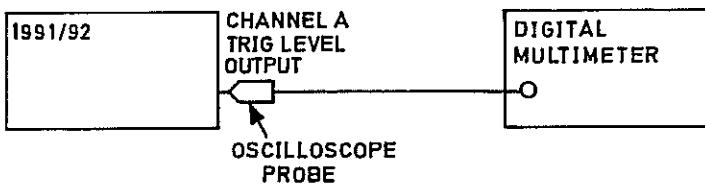

Fig 7.25 Connections for Trigger Level PVP
- 62 (1) Connect the test equipment as shown in Fig 7.25.
- (2) Set the multimeter to measure DC volts.
- (3) Press **TRIG LEVEL**    **5**    **TRIG LEVEL**    on channels A and B.
- (4) Verify that the multimeter indicates  $+5\text{ V} \pm 60\text{ mV}$ .
- (5) Transfer the probe to the channel B TRIG LEVEL OUTPUT pin and verify that the multimeter indicates  $+5\text{ V} \pm 60\text{ mV}$ .
- (6) Press **TRIG LEVEL**    **0**    **TRIG LEVEL**    on channels A and B.
- (7) Verify that the multimeter indicates  $0\text{ V} \pm 10\text{ mV}$ .
- (8) Transfer the probe to the channel A TRIG LEVEL OUTPUT pin and verify that the multimeter indicates  $0\text{ V} \pm 10\text{ mV}$ .
- (9) Press **TRIG LEVEL**    **5**    **SHIFT**    **±**    **TRIG LEVEL**
- (10) Verify that the multimeter indicates  $-5\text{ V} \pm 60\text{ mV}$ .
- (11) Transfer the probe to the channel B TRIG LEVEL OUTPUT pin and verify that the multimeter indicates  $-5\text{ V} \pm 60\text{ mV}$ .